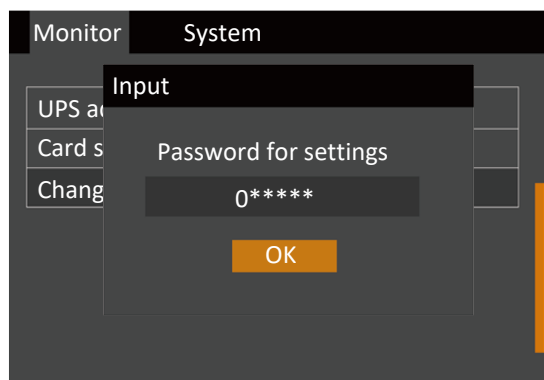

Figure 5-21 Inputting Password
2. Press the  key, the interface shown in Figure 5-21 is displayed.